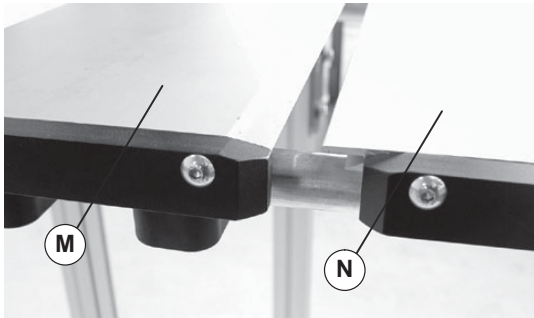
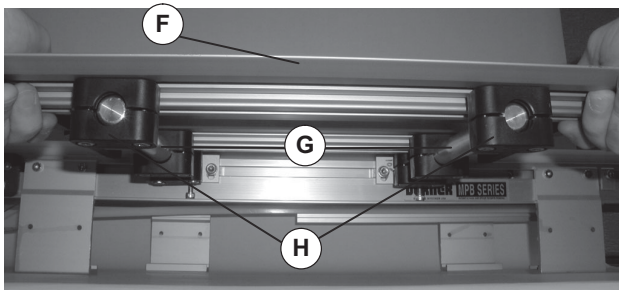

Figure 13
Figure 14
- Orient second table (Figure 13, item N) so it will mate with the first table (M). Lift second table (Figure 14, item F) and slide clamps (H) on to support bars (G). There is only one additional clamp per support bar.